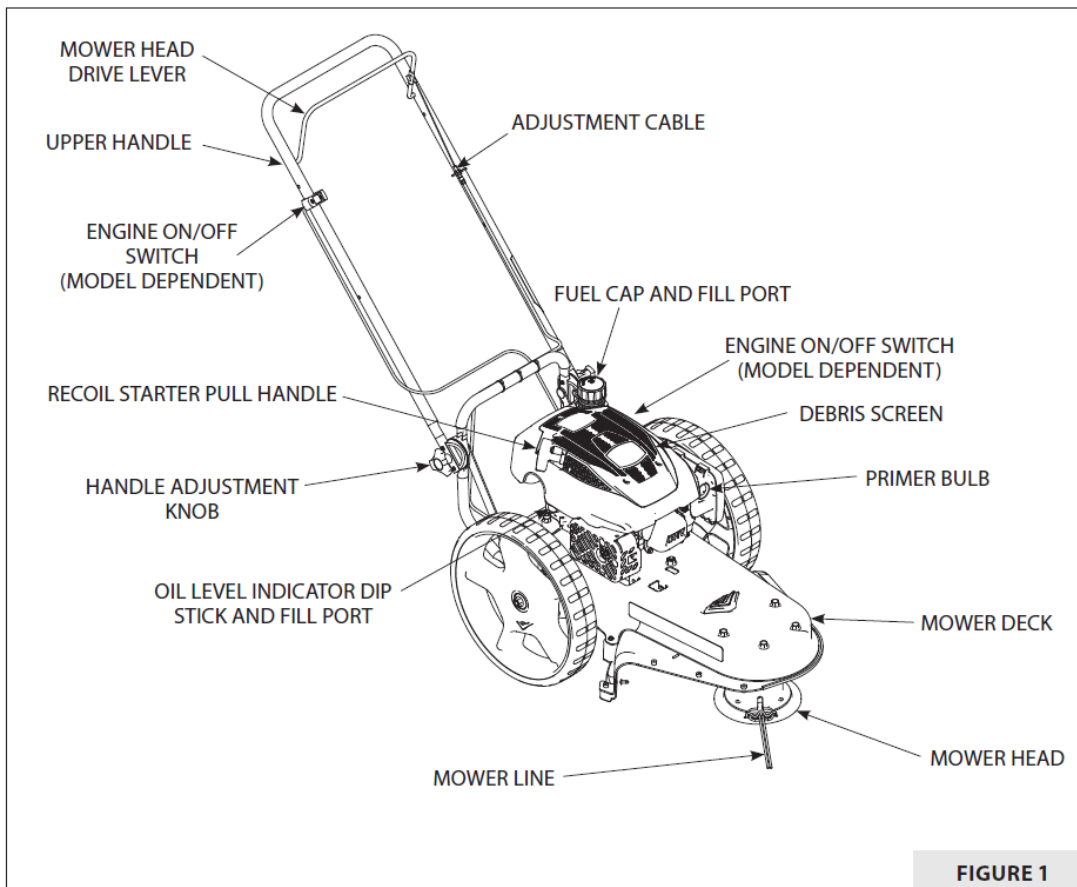

FIGURE 1
Read this owner's manual and safety rules before operating your mower. Take time to compare the following illustration with the mower to familiarize yourself with the product and its controls. SEE FIGURE 1.
1. Before each use, remove debris from the debris screen. **SEE FIGURE 1 IN THE "FEATURES" SECTION**. Debris can cause the engine to overheat. Wipe the debris screen with a cloth or paper towel.